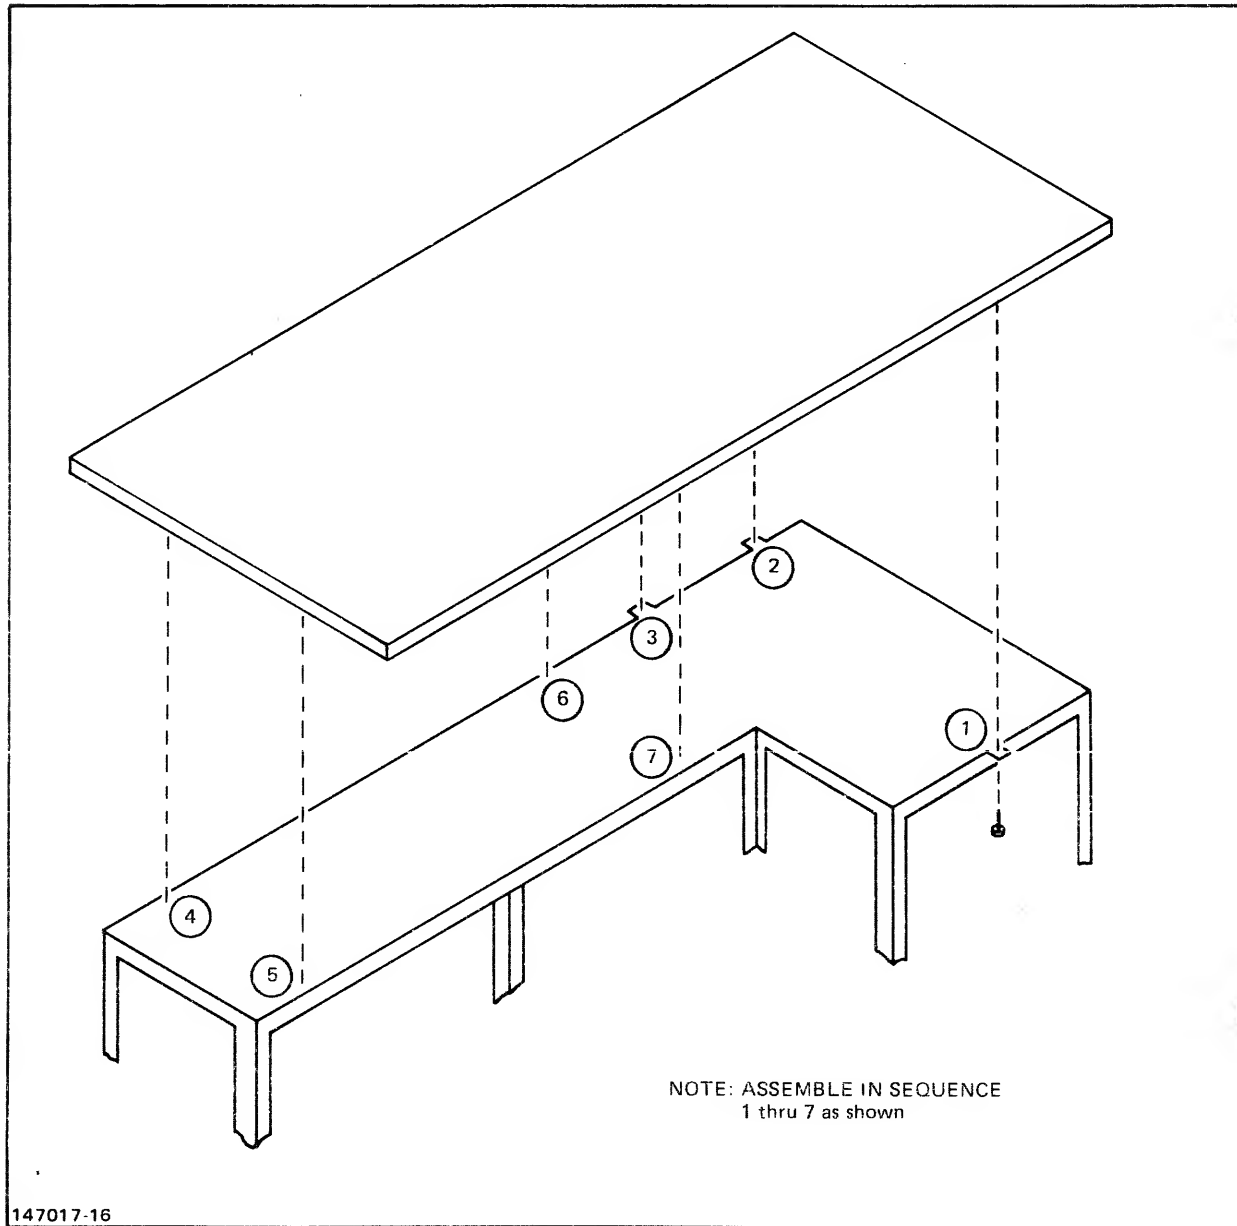

Figure A-2. Table Mechanical Joining
1. Remove the 7 allen screws, located as illustrated in figure A-2.
- b. Locate the top on the cabinet, using the screws in the sequence shown in figure A-2.
- c. Loosely start all screws, then tighten in the sequence shown in figure A-2.
- c. Use the cap screws to pull the cabinets together in the sequence shown in figure A-2, adjusting leveler legs as required. After all screws are installed, tighten snugly.